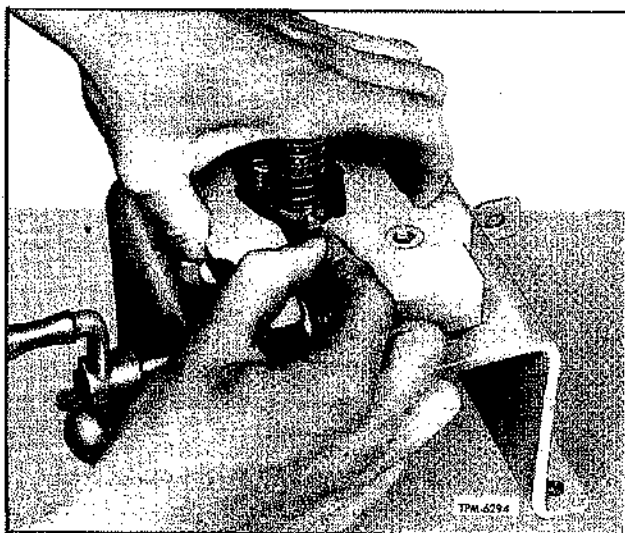

Figure 23D—Installing Injector Follower Stop Pin
3. Refer to figure 23D and start the stop pin into position in injector body so that bottom coil of follower spring rests on the narrow flange on the stop pin. Then, with slot in the follower and hole in the injector body in alignment for the stop pin and flat side of plunger positioned to engage flat side of gear, press down on top of follower and at the same time press follower stop pin into position with the thumb. The stop pin will slip into position as soon as the slot in follower and hole in injector body come in alignment. When in place, the spring will hold the stop pin in position.